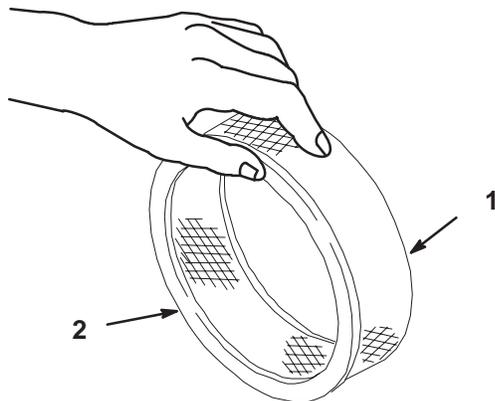

Figure 19
1. Lightly tap the element on a flat surface to remove dust and dirt (Fig. 19).